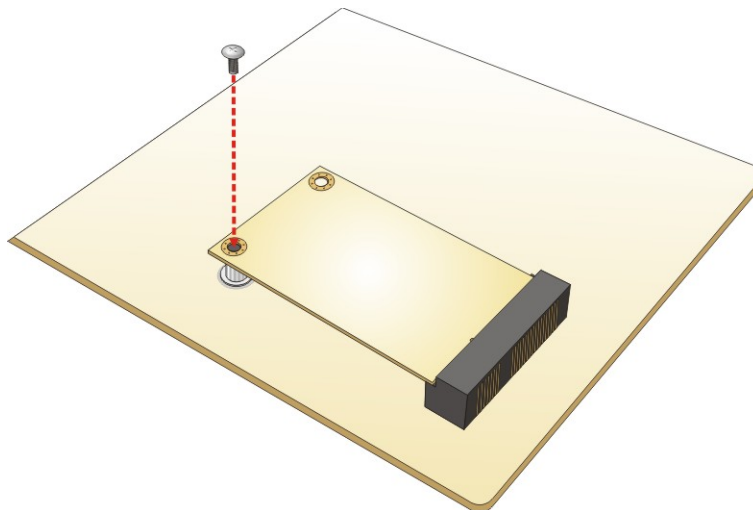

Figure 3-6: Securing the PCIe Mini Card
Step 5: Secure the PCIe Mini card with the retention screw previously removed (**Figure 3-6**).